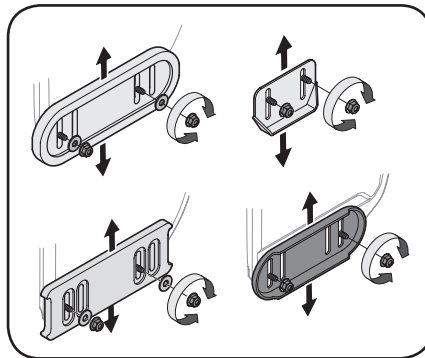

Figure 2-44
3. Retighten hex nuts, washers (if equipped) and carriage bolts securely. See Figure 2-44.